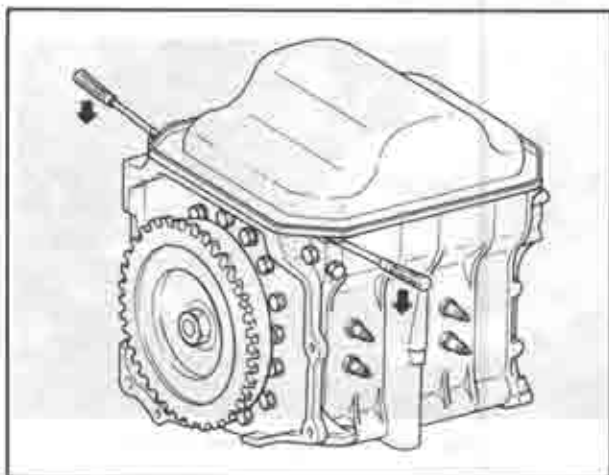

Fig. 1-6 Removing oil pan
2. Remove the bolts attaching the oil pan, and remove the oil pan as shown in Fig. 1-6.